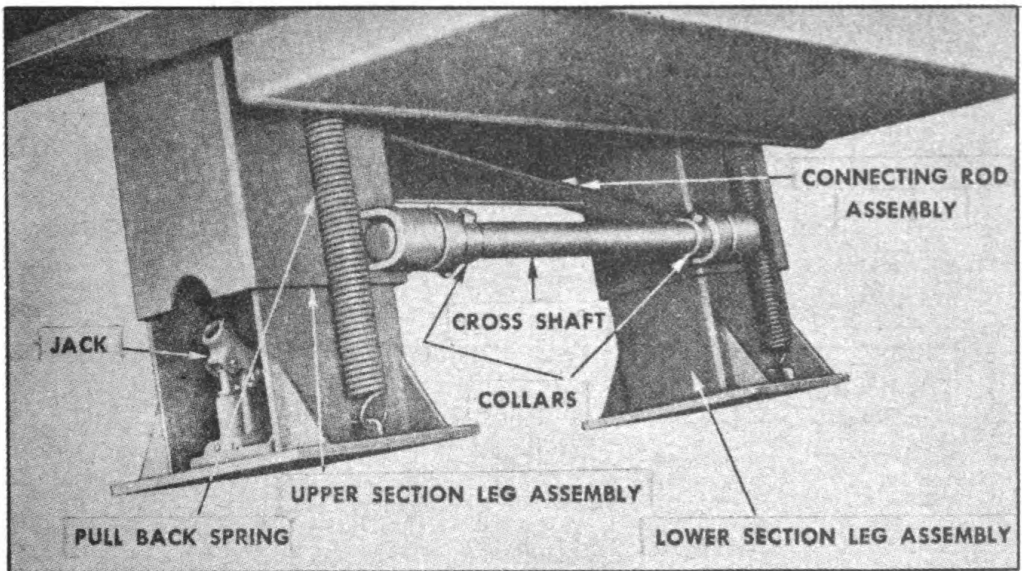

FIGURE 65. SUPPORTS—SEMI-TRAILER
2. **REMOVAL OF JACKS.**—*a.* Put supports in the “up” position (Figure 65).
4. SUPPORT LEG ASSEMBLY (Figure 65).—*a. Removal*.—(1) Remove bolts from collar on both sides of cross shaft to remove leg assembly.